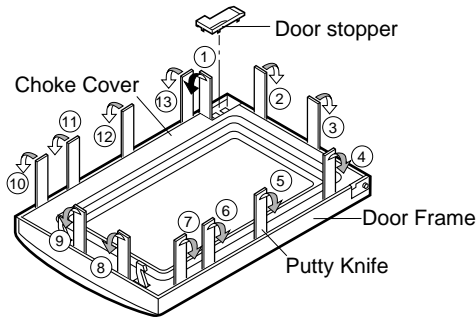

Figure C-6. Door Disassembly
3. Insert an putty knife (thickness of about 0.5mm) into the gap between the door stopper and the choke cover to free engaging parts as shown in Figure C-6
6. Insert an putty knife (thickness of about 0.5mm) into the gap between the choke cover and door frame as shown in Figure C-6 to free engaging parts.
- by inserting a putty knife as shown Figure C-6.